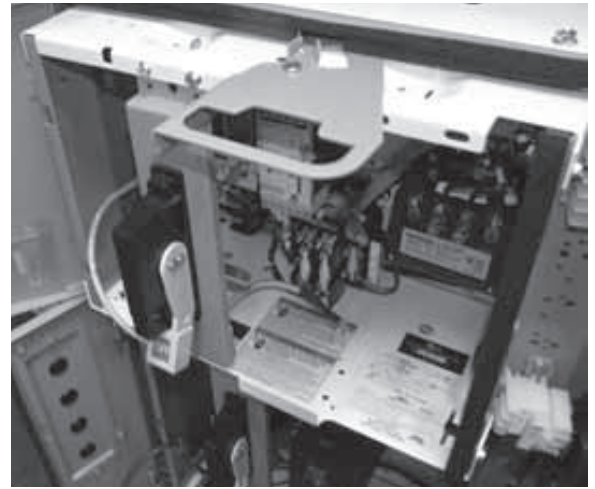

Figure 5 - Stab Hole Covers
2.8.4. Remove stab hole covers at appropriate heights and replace covers on unused stab holes. Stab hole covers should be arranged so that the only uncovered openings are those to which a unit will be connected (See Figure 5).